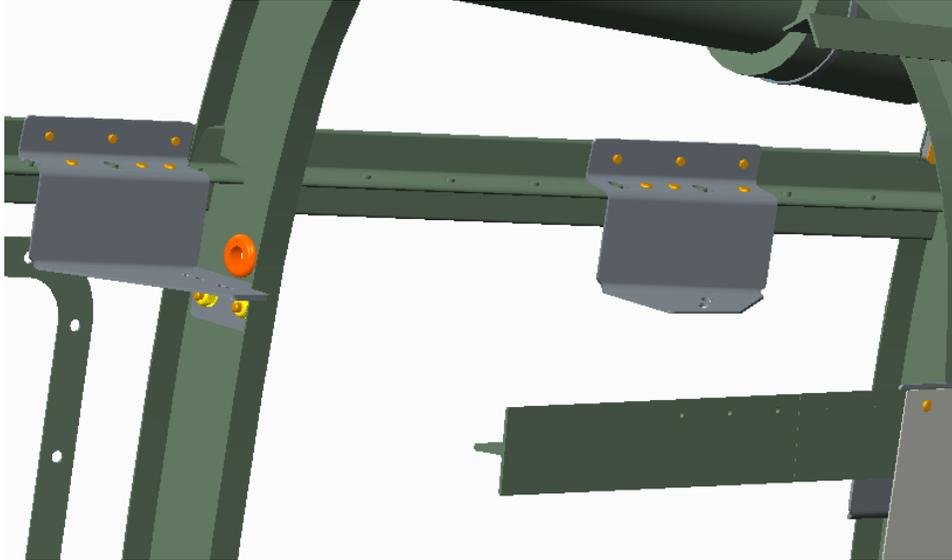
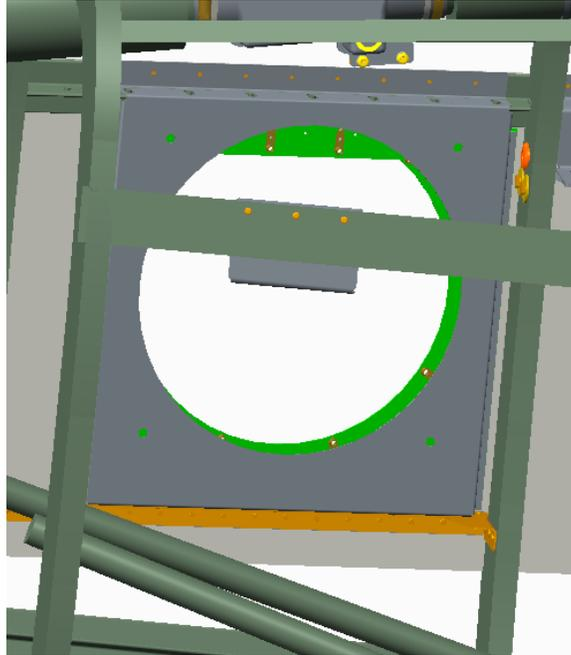

Figure 3 – Compressor Support Bracket Installation
Figure 4 – Compressor Support Bracket Installation
- 1) Locate and install the compressor support brackets per notes 1.1 through 1.5. See Figure 3 and Figure 4.